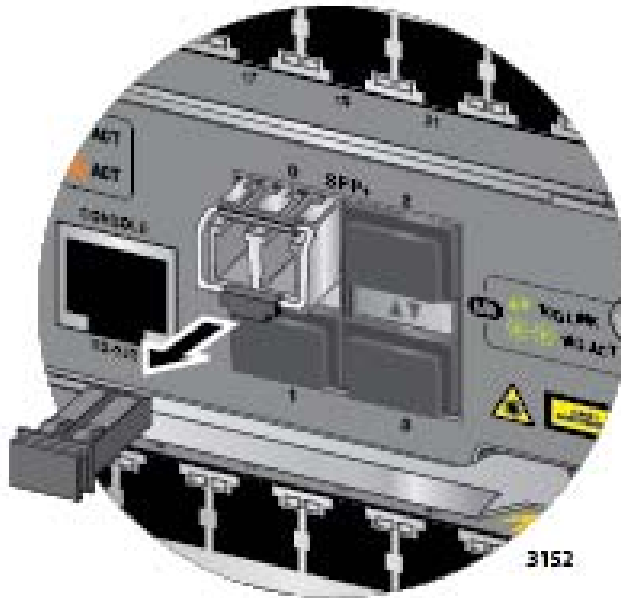

Figure 107. Removing the Dust Cover from an SFP or SFP+ Transceiver in the AT-SBx31CFC960 Controller Fabric Card
4. Remove the protective cover from the transceiver, as shown in Figure 107 on page 170.